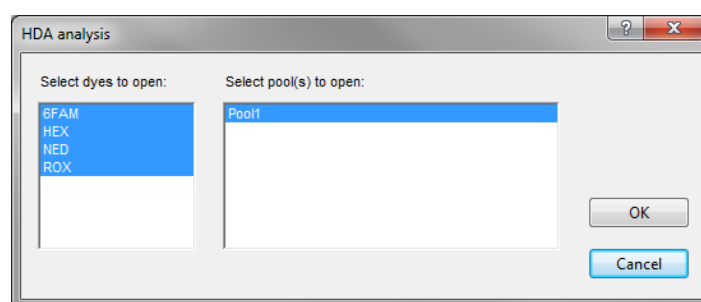

Figure 3.36: The *HDA analysis* dialog box.
- 17.3 With a number of entries selected, choose **Analyze(current selection)** from the *HDA* menu to call the *HDA analysis* dialog box (see Figure 3.36).